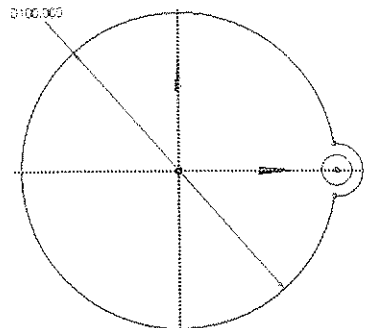

Figure 4-47 Sketch after trimming the undesired portion
10. Invoke the **Trim** tool from the **Modify** toolbox and trim the undesired portions of the sketch, refer to Figure 4-47.